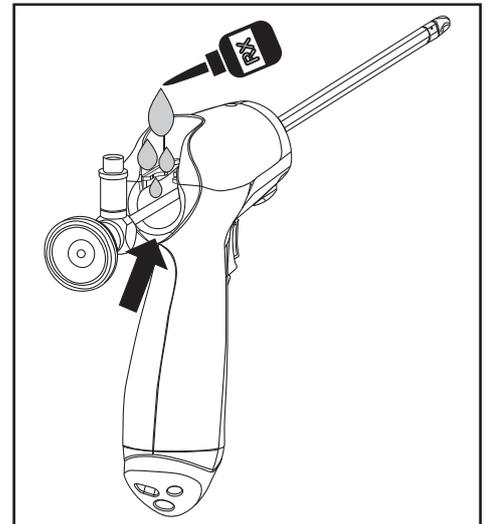

Figure 11. Insert Rigid Cystoscope Lens.
2. Coat lens shaft near lens tip with lidocaine gel anesthetic or water soluble lubrication to ensure smooth insertion into Delivery Device. Do not coat the lens itself, as this may impede visualization (Figure 11).